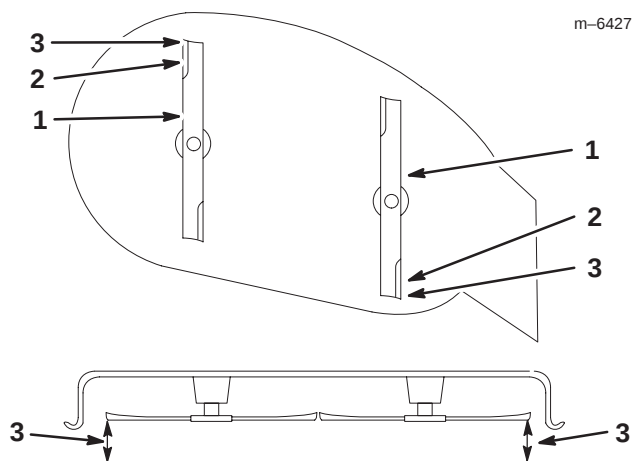

Figure 43
8. Set the height-of-cut at position **D** [3 inch (76 mm)] and carefully rotate the blades so they are facing front to rear (Fig. 43).
9. Measure from the tip of the front blade to the flat surface and the tip of the rear blade to the flat surface (Fig. 43). If the front blade tip is not 1/16–5/16 inch (1.6–7.9 mm) lower than the rear blade tip, adjust the front locknuts.